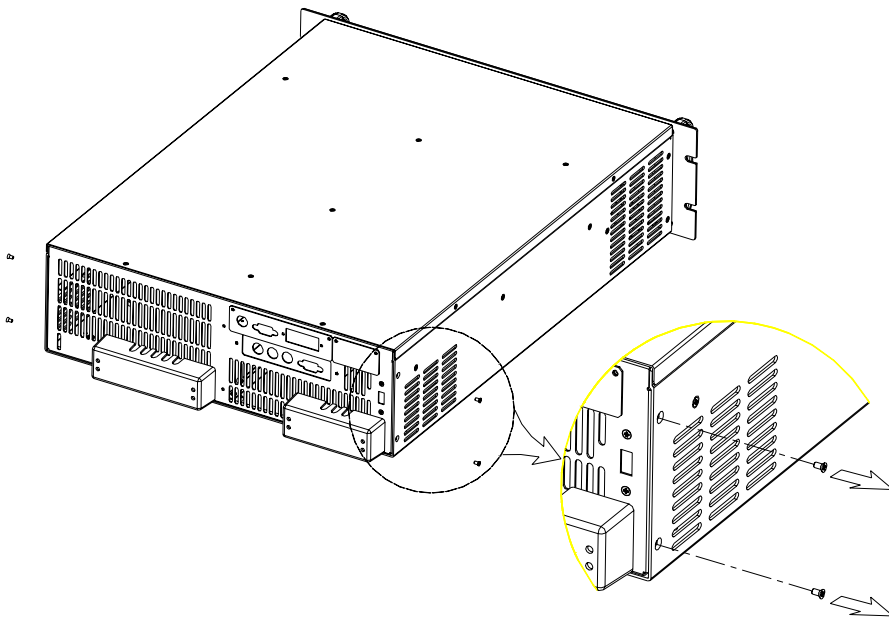

Figure 1
1. Remove the four screws from both sides of the rear panel (Figure 1).